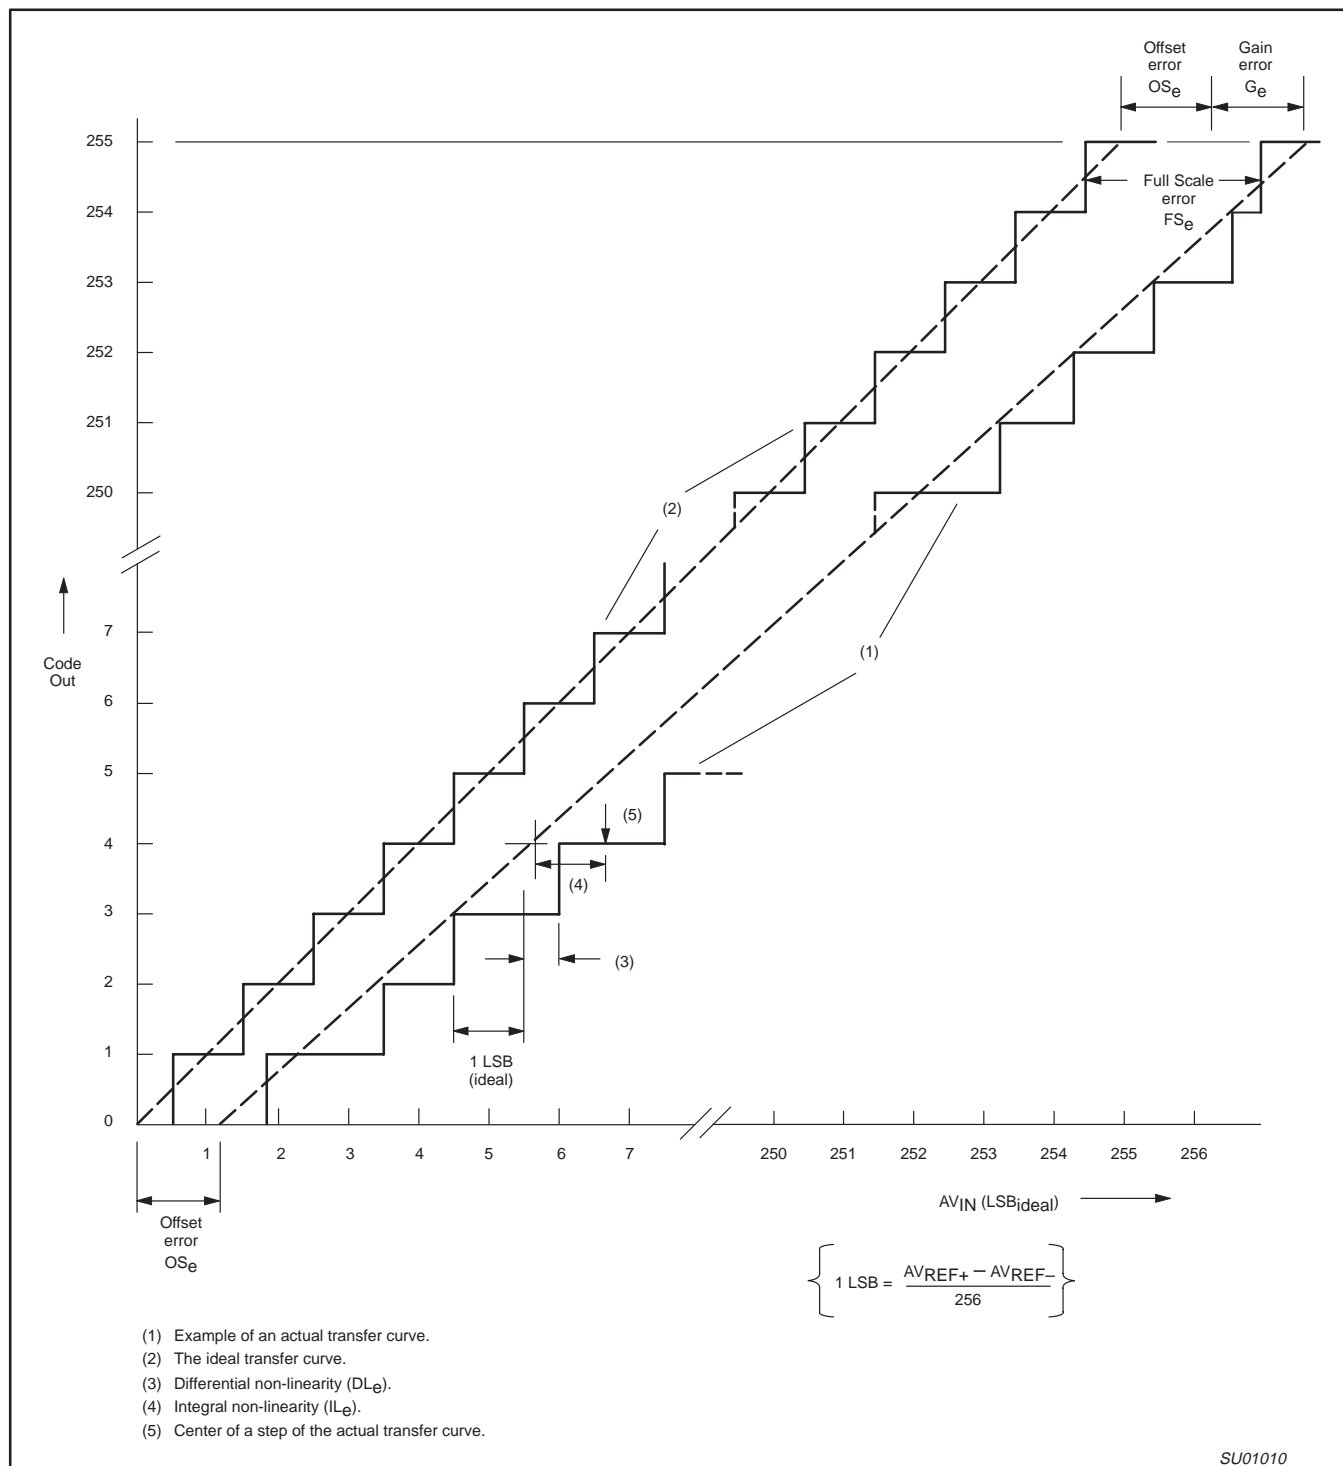

Figure 25. ADC Conversion Characteristic
2. The differential non-linearity (DLe) is the difference between the actual step width and the ideal step width. See Figure 25.
4. The integral non-linearity (ILe) is the peak difference between the center of the steps of the actual and the ideal transfer curve after appropriate adjustment of gain and offset errors. See Figure 25.
5. The offset error (OSe) is the absolute difference between the straight line which fits the actual transfer curve (after removing gain error), and the straight line which fits the ideal transfer curve. See Figure 25.
6. The gain error (Ge) is the relative difference in percent between the straight line fitting the actual transfer curve (after removing offset error), and the straight line which fits the ideal transfer curve. Gain error is constant at every point on the transfer curve. See Figure 25.